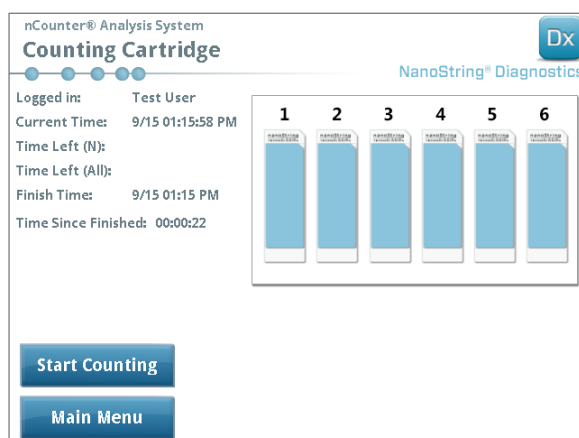

FIGURE 6.8: The 'Counting Cartridge' screen with six completed cartridges
7. When a cartridge is finished scanning, an e-mail notification will be sent to the user and the processing screen will change to reflect that the cartridge has completed (**FIGURE 6.8**). Upon receiving the e-mail notification that the scan has completed, remove the completed cartridge. In case of an instrument error or reports not being available store cartridge in an opaque box (to protect from light) at 4°C for up to one week. Contact dxsupport@nanosttring.com for assistance.